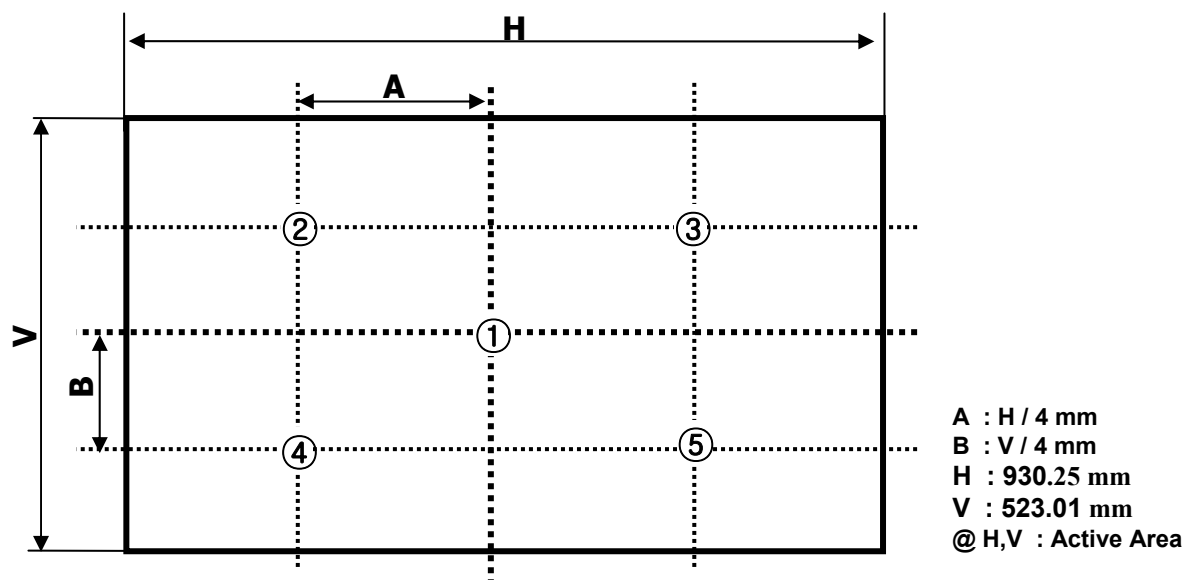

FIG.2 Measure Point for Luminance
2. Surface luminance is determined after the unit has been 'ON' and 30min after lighting the backlight in a dark environment at  $25 \pm 2^\circ\text{C}$ . Surface luminance is the luminance value at center 1-point across the LCD surface 50cm from the surface with all pixels displaying white. for more information see the FIG. 2.
For more information, see the FIG. 2.